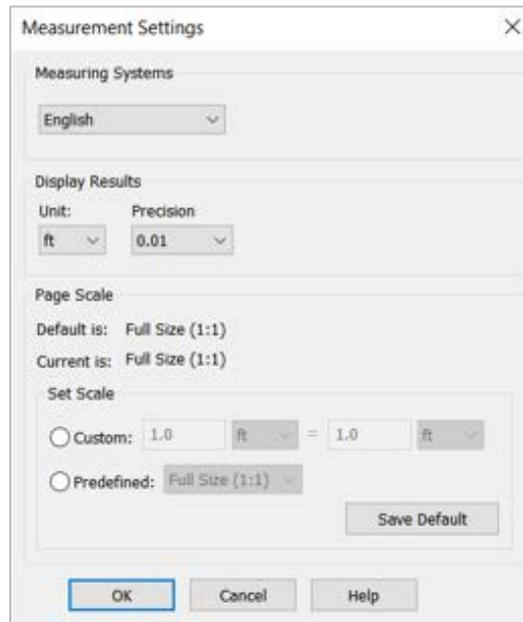

Figure 9.2 Measurement Settings
- 3) Click the **Measure** drop-down **Measure**, select **Settings...** and repeat the same settings as shown in Figure 9.2 Measurement Settings.